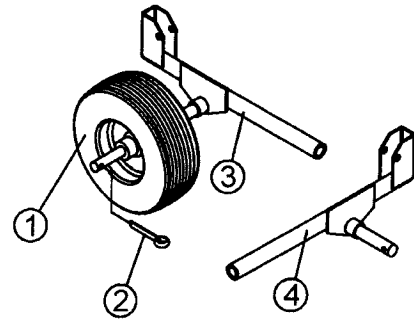

Figure 1. Axle Mount Assembly
1. Assemble the axle mounts (See Figure 1). Push the wheel (item 1) on the axle mount (item 3) and then insert the cotter pin (item 2) through the outer axle hole. Bend the cotter pin to secure the wheel in place. Repeat this step for the other axle mount (item 4).